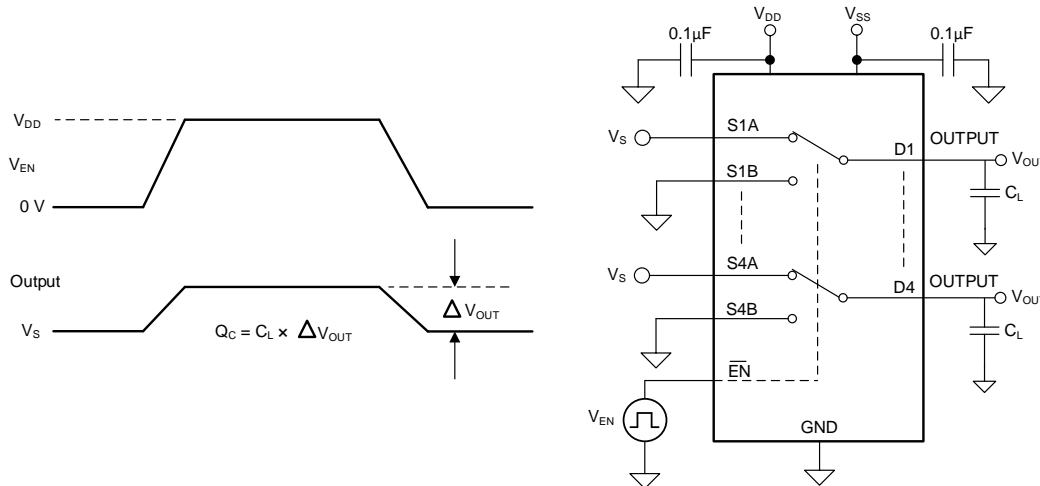

Figure 22. Charge-Injection Measurement Setup
The TMUX1133 has a transmission-gate topology. Any mismatch in capacitance between the NMOS and PMOS transistors results in a charge injected into the drain or source during the falling or rising edge of the gate signal. The amount of charge injected into the source or drain of the device is known as charge injection, and is denoted by the symbol  $Q_C$ . Figure 22 shows the setup used to measure charge injection from source (Sx) to drain (D).